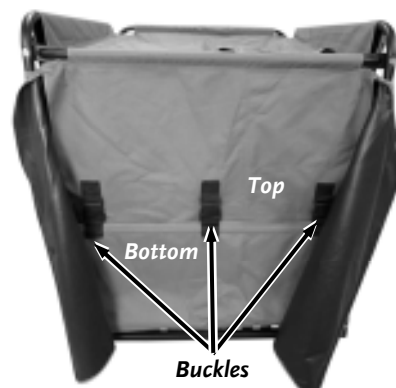

Figure 45
28. Separate the top and bottom Doors by disconnecting the three Buckles (Figure 45).